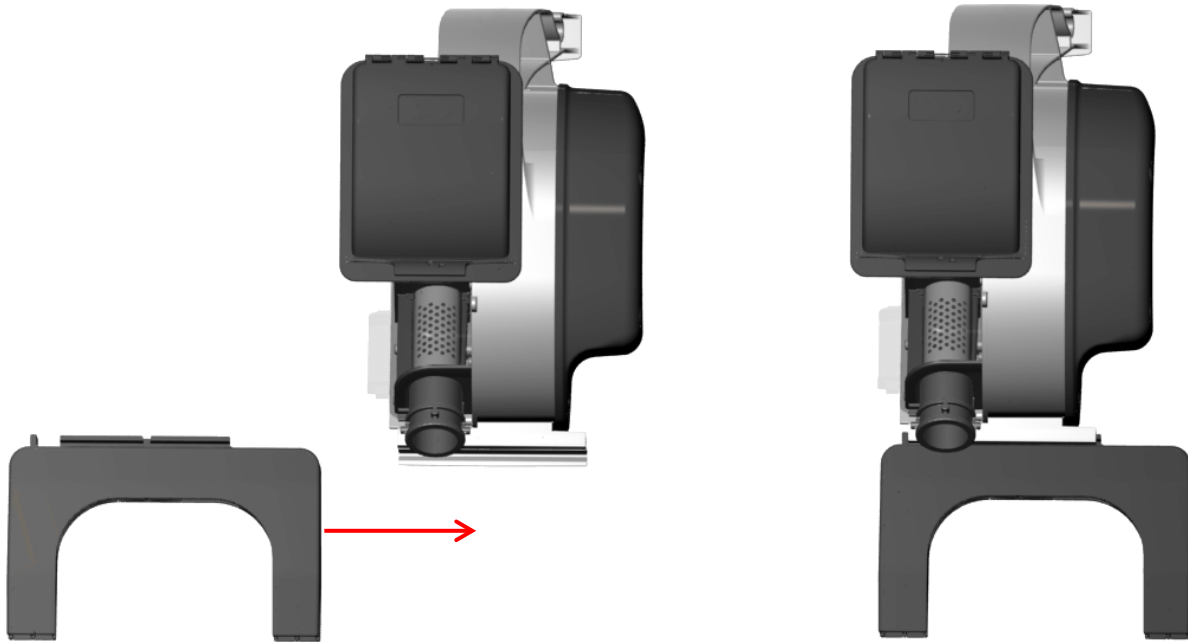

Figure 3 – SpeedTube Spanner Bracket Installation
- c) Align the spanner bracket with the grooves on the front of the mini hopper and slide the spanner bracket onto the mini hopper until the locking tab engages. A rubber mallet should be used to fully install the spanner bracket. Refer to figure 3 on the following page.